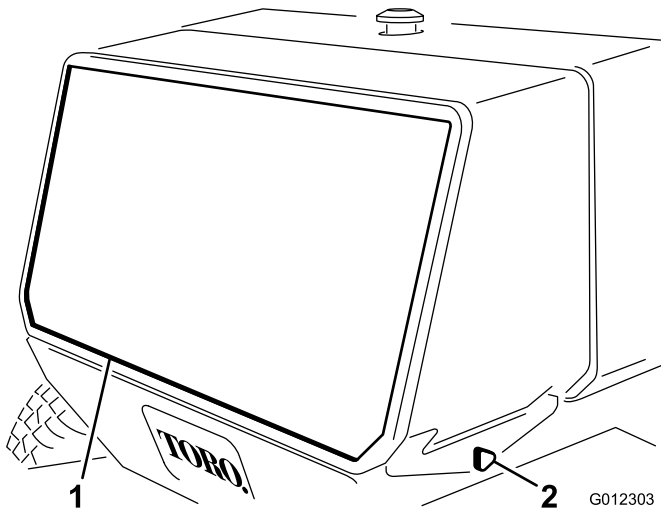

Figure 29
1. Remove the knobs securing the rear screen to the frame (Figure 29). Remove the screen.